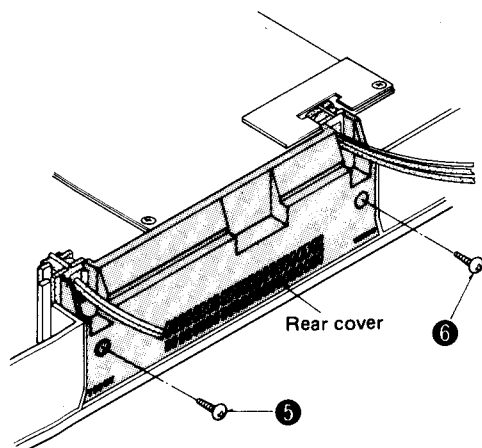

Fig. 2
Remove the rear cover setscrews ⑤ and ⑥ to remove the rear cover. (Fig. 2)